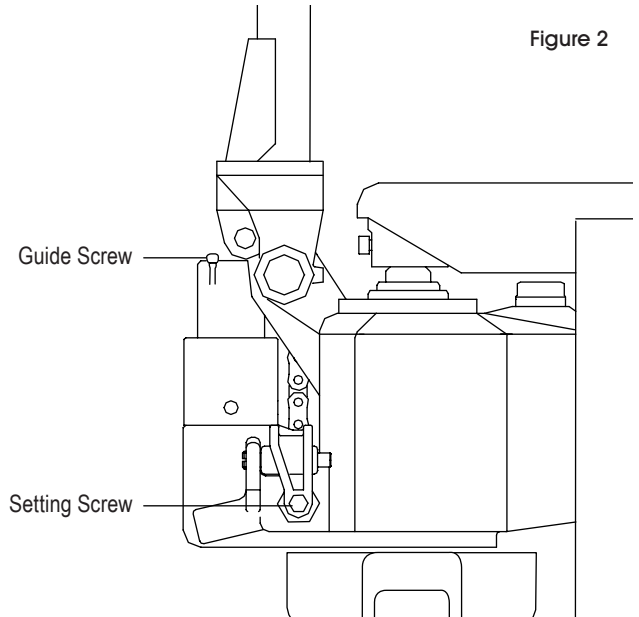

Figure 2
**NOTE:** When viewing the truck from the handle side, the setting screw is located on the right side of the pump above the right wheel. The truck will lower faster or slower depending on how far in or out the screw is adjusted. (See Figure 2)
1. Remove guide screw and slowly pump the handle until oil overflows. Stop pumping the handle and tighten the guide screw. (See Figure 2)